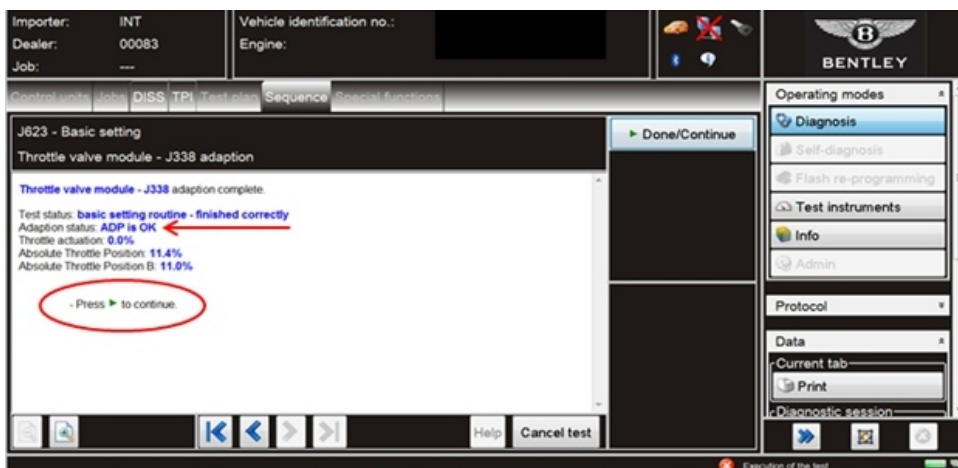

Figure 7
10. Both Throttle valve modules will now be adapted. Follow all on screen instructions. When the throttle valve modules are being adapted the following screen will be displayed (Figure 7)